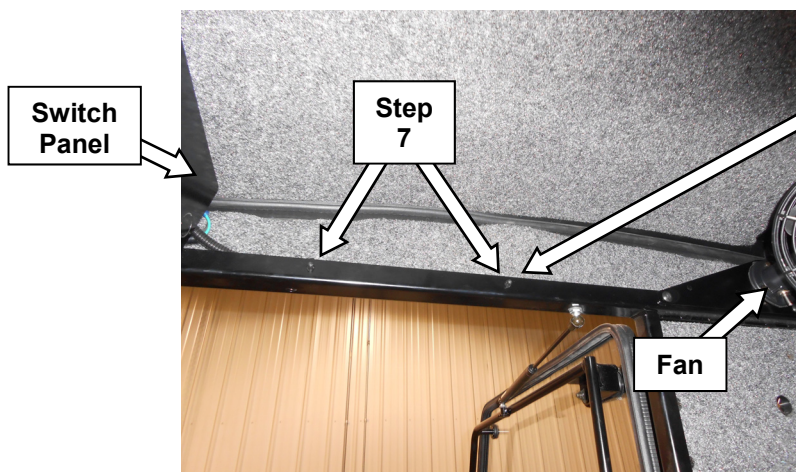

Figure 3a
6. Route opposite end of wire harness along the inside of RH header to fuse block location (**Figure 3a**). Remove fuse block access cover from switch panel.
7. Secure wire harness using (2) 1/4" rosebud retainers (Item 13) to inside of RH header channel (**Figure 3a and 3b**).